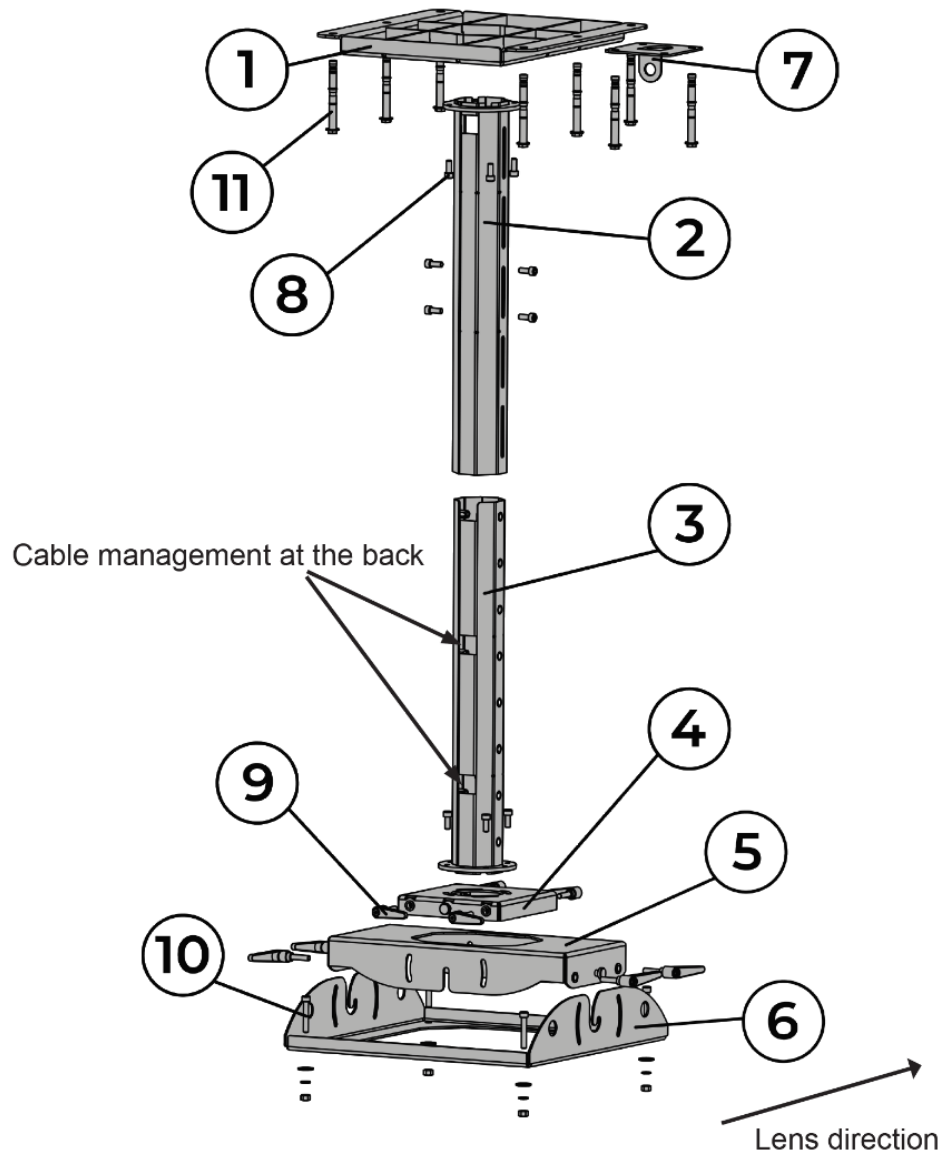

Figure 77: VM-1140 Parts
Table 23, have been illustrated in **Figure 77** below. The remaining parts ⑫ to ⑭ have been illustrated separately in **Step 3B** and **Step 13** under **Section 11.5**.